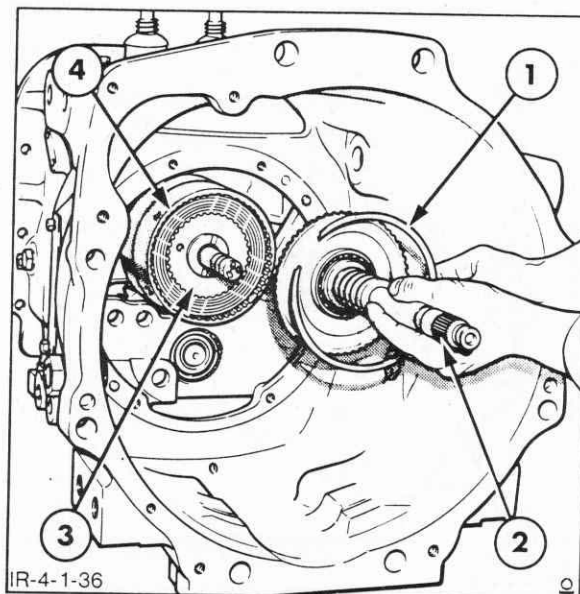

Figure 4-36
1. Remove the front input shaft and bearing assembly from the clutch housing by removing the snap ring, Figure 4-36.
2. Pull the forward clutch hub, along with the thrust washer, from the rear input shaft, Figure 4-36, then remove the forward clutch plates.